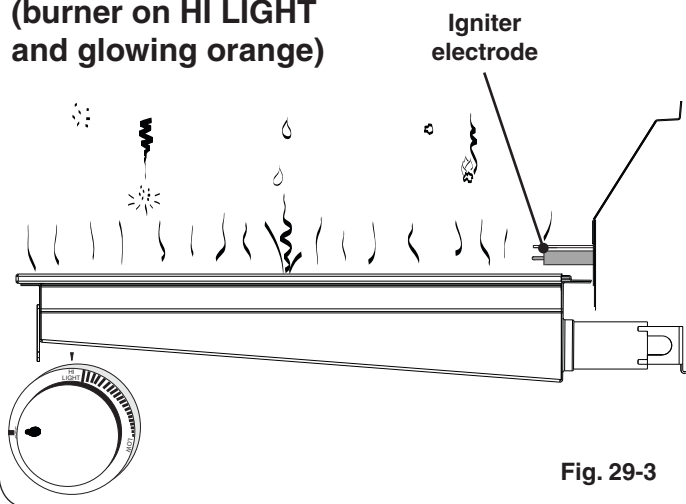

Fig. 29-3
- **DO NOT place food on the cooking grid until the infrared burner glows orange (Fig. 29-3).** Drippings are heated and evaporate instead of sticking to and impairing burner function.